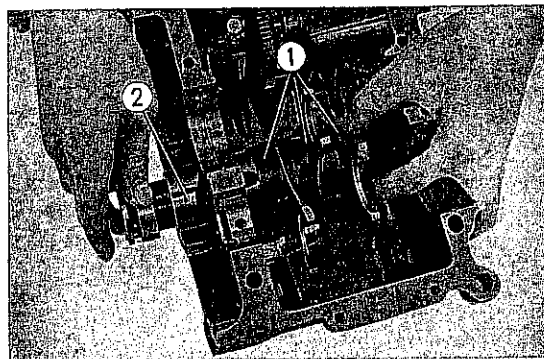

Fig. 127 ① Gear shift forks ② Gear shift drum
1. Set the left, right and center gear shift forks into the upper crankcase as shown in Fig. 127. Install the gear shift drum.